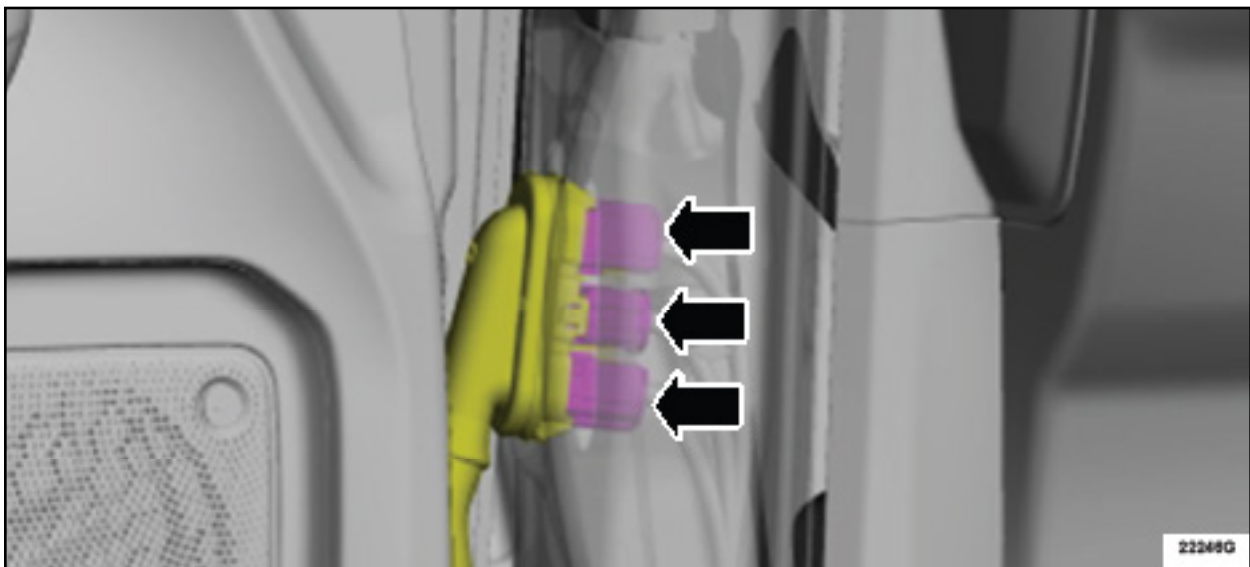

FIGURE 3
- Disconnect the three (3) door to body electrical connectors. See Figure 3.